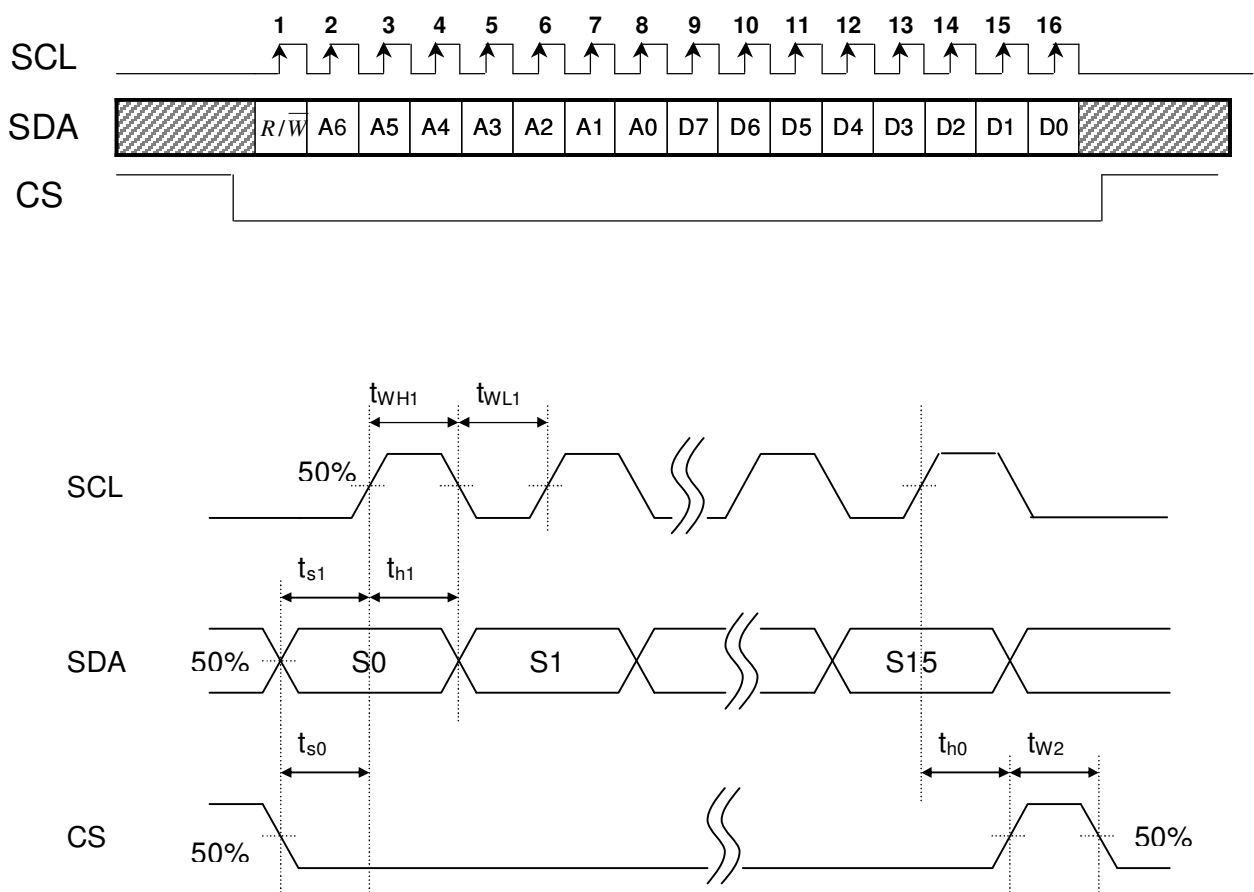

Fig.1 Serial Interface Control Timing
3.6.1 Input timing specifications (refer to Fig. 1)